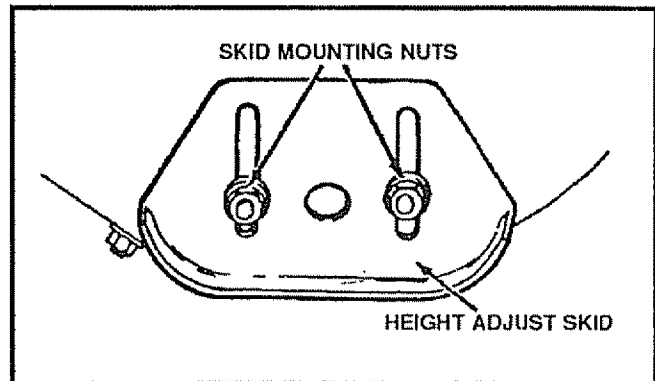

FIG. 20
- Loosen the skid mounting nuts (See Fig. 20) and push the skids down until they touch the ground. Retighten the mounting nuts.